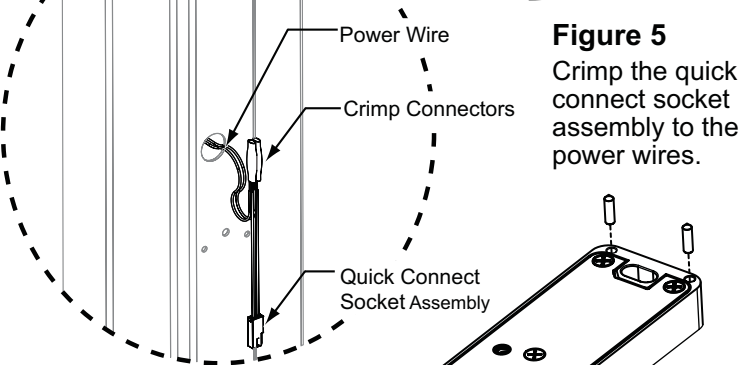

**Figure 3**
3. When you are confident with the position of the 4800, mark two perpendicular edges of the 4800 on the frame. See Figure 3